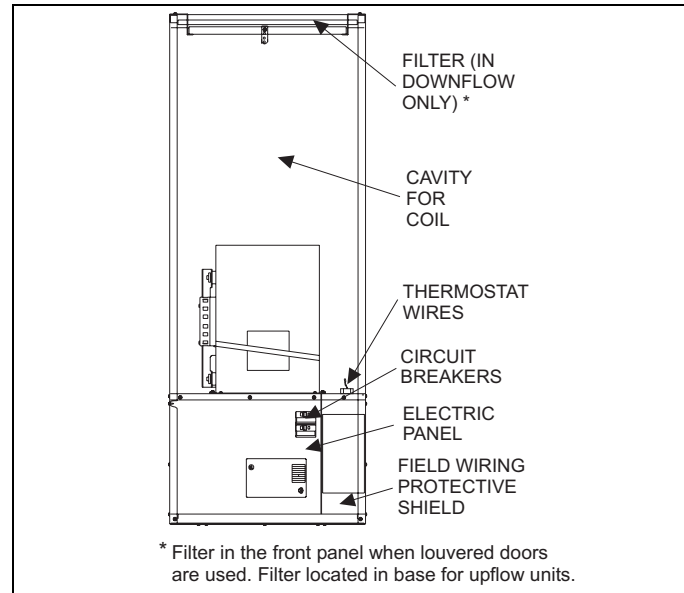

FIGURE 1: Component Locations
To remove blower from furnace, turn off power at household service box, turn furnace circuit breakers OFF. Disconnect wiring to blower, and remove five (5) screws holding blower in furnace and slide blower out from front of the furnace. See Figure 1.
Your electric furnace is equipped with a unique safety feature - circuit breakers. These circuit breakers are located behind the door of the furnace, near the bottom of the furnace. See Fig. 1. If a component should fail inside the furnace, the circuit breakers will prevent damage that can be caused by an electrical short. If the breakers ever trip, they can be reset by first turning off the power to the furnace at the home's circuit breaker panel. See Warning below. Then remove the furnace door and reset the circuit breaker in the furnace. Re-install the furnace door and turn the power back on at the home's breaker panel. If for some reason these circuit breakers should trip again, a service technician should be contacted as a problem exists inside the furnace. A list of authorized service centers is provided with every furnace and will assist you in obtaining service for your furnace.
FILTER LOCATION: The furnace's front panel must be removed to gain access to the filter of the downflow furnace. (See Figure 1.) However, the filter for the upflow furnace* is located behind the return air grill, adjacent to the furnace closet or any other location in the return air.